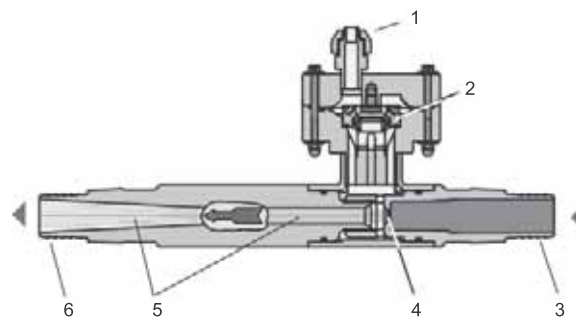

Fig. 2 Functioning scheme
1. Connect motive water supply line (pos. 3, fig. 2).
2. Connect gas solution line (6).
3. Connect gas supply line (1).